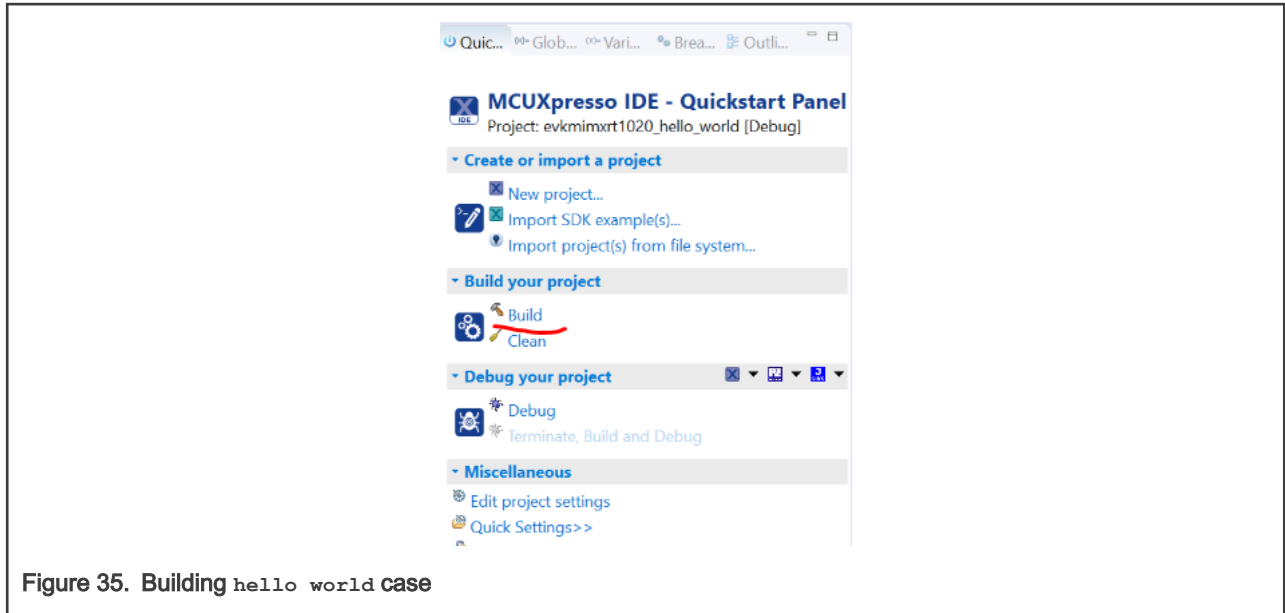

Figure 35. Building hello world case
- On the **Quickstart** panel, click **build evkmimxrt1020\_demo\_apps\_hello\_world [Debug]** , as shown in Figure 35.